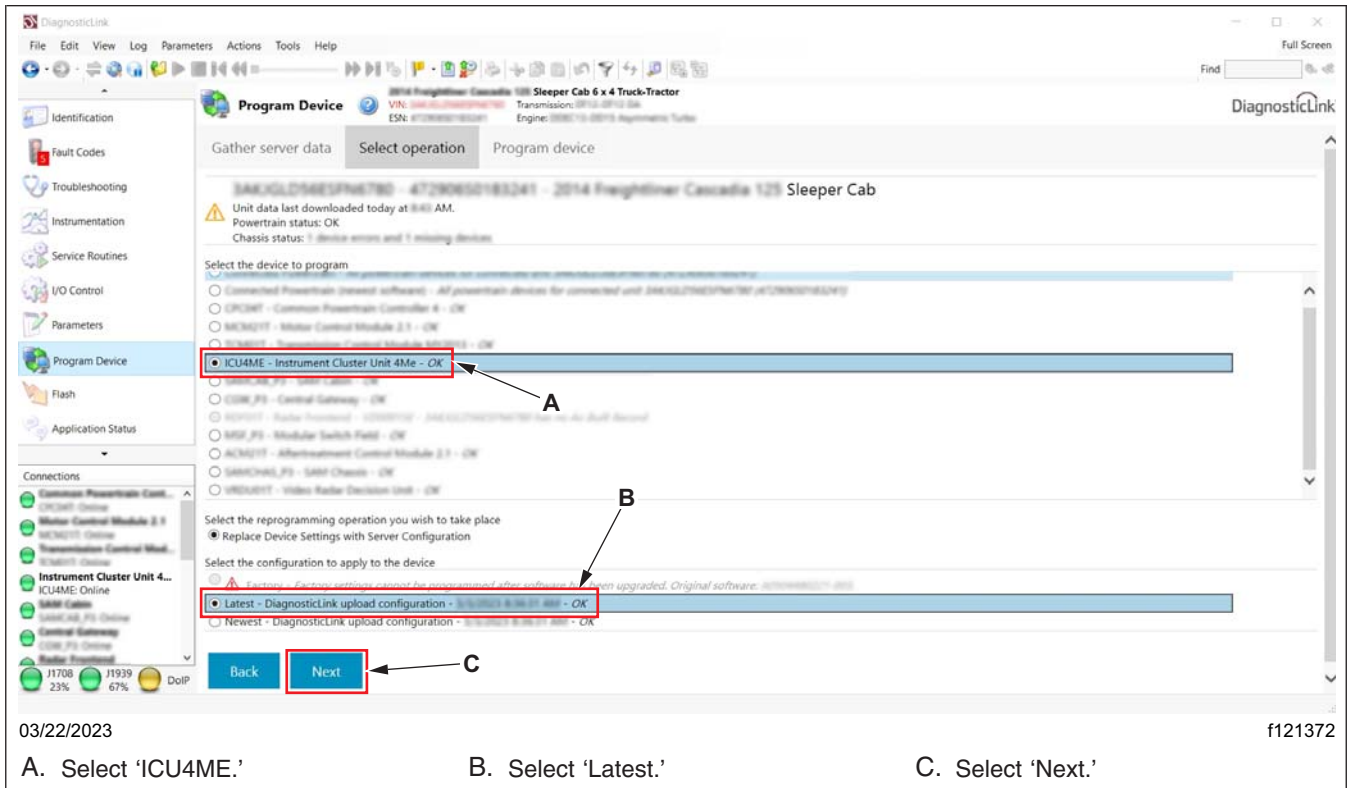

Fig. 14, Configuring the Programming Operation
8.8 Select 'ICU4ME' as the device to program, then select 'Latest' as the configuration to apply to the device. If 'Latest' is not available, select 'Newest.' Select 'Next.' See **Fig. 14**.